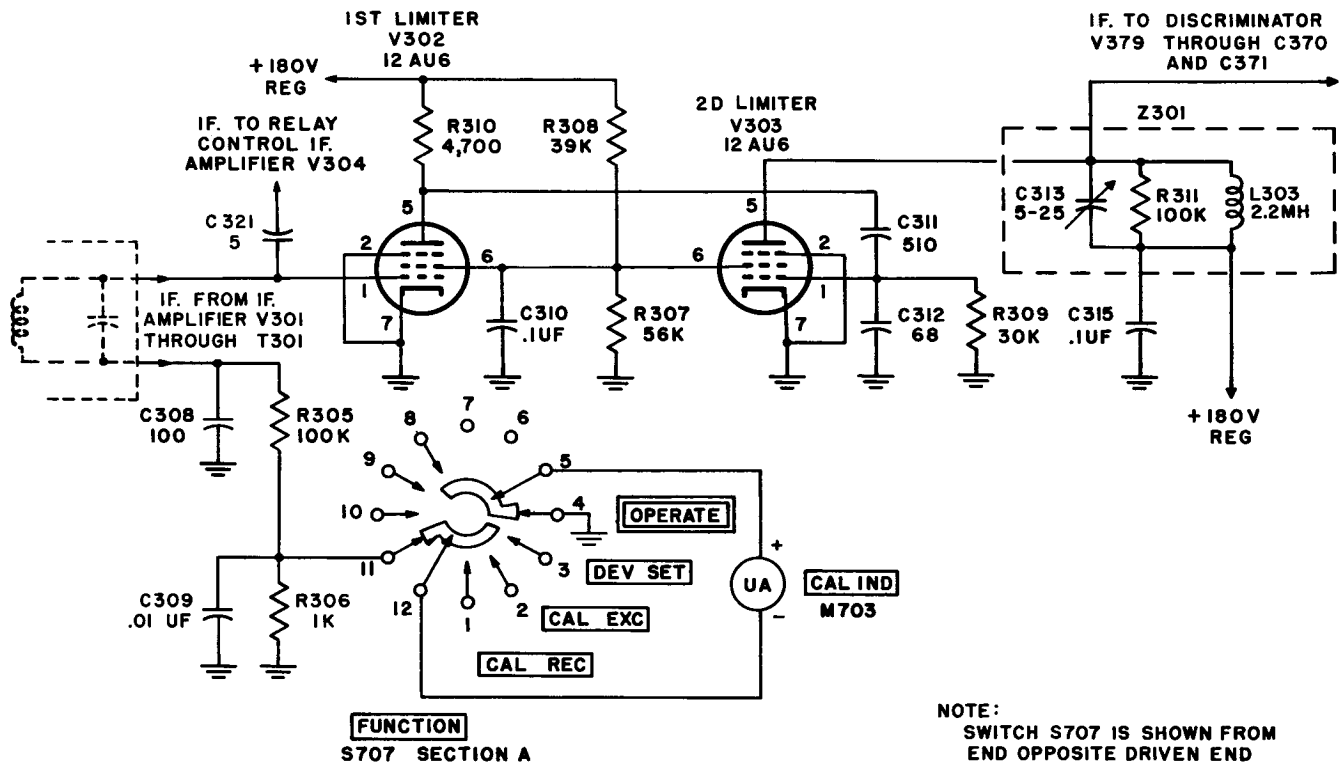

Figure 55. First limiter and second limiter, simplified schematic diagram.
87. First Limiter V302 and Second Limiter V303 (fig. 55)
located on the if. amplifier subchassis. The relay control if. amplifier receives the if. signal from the secondary of transformer T301. This is the output signal from the if. amplifier V301 and is the same signal received by the first limiter V302 (fig. 55). The control grid (pin 1) receives the signal through coupling capacitor C321. The grid leak circuit to ground is through resistor R321. The cathode resistor R322 provides tube bias. The suppressor grid (pin 2) is connected directly to the cathode (pin 7) and the cathode resistor is bypassed to ground by capacitor C322. Screen grid voltage is from the +180 v regulated supply through the decoupling circuit, R323 and C323, and through the plate load resistor R324. The output from the relay control if. amplifier is through the coupling capacitor C324 to the relay control sensing detector V305A. The presence of an if. signal to the sensing detector indicates that the radio frequency oscillator tuning circuit is under the control of the servo system. The absence of an if. signal to the sensing detector indicates that the servo circuit has lost control and that the radio frequency oscillator must scan the frequency spectrum and reposition at the frequency to which the radio receiver is tuned.